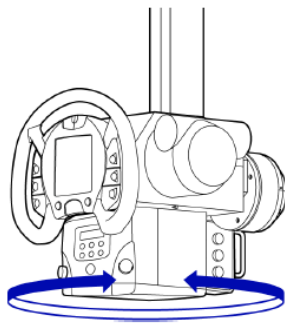

Fig. 1 Rotation around Vertical Axis
- Perform daily inspections according to the CH -200/CH -200 M operation manual. In particular, check if there is any abnormality such as the X-ray tube device being able to rotate around vertical axis (see Fig .1 below) without pressing any button on the control panel. if any abnormal points are observed, stop using the equipment and contact Shimadzu service representative.